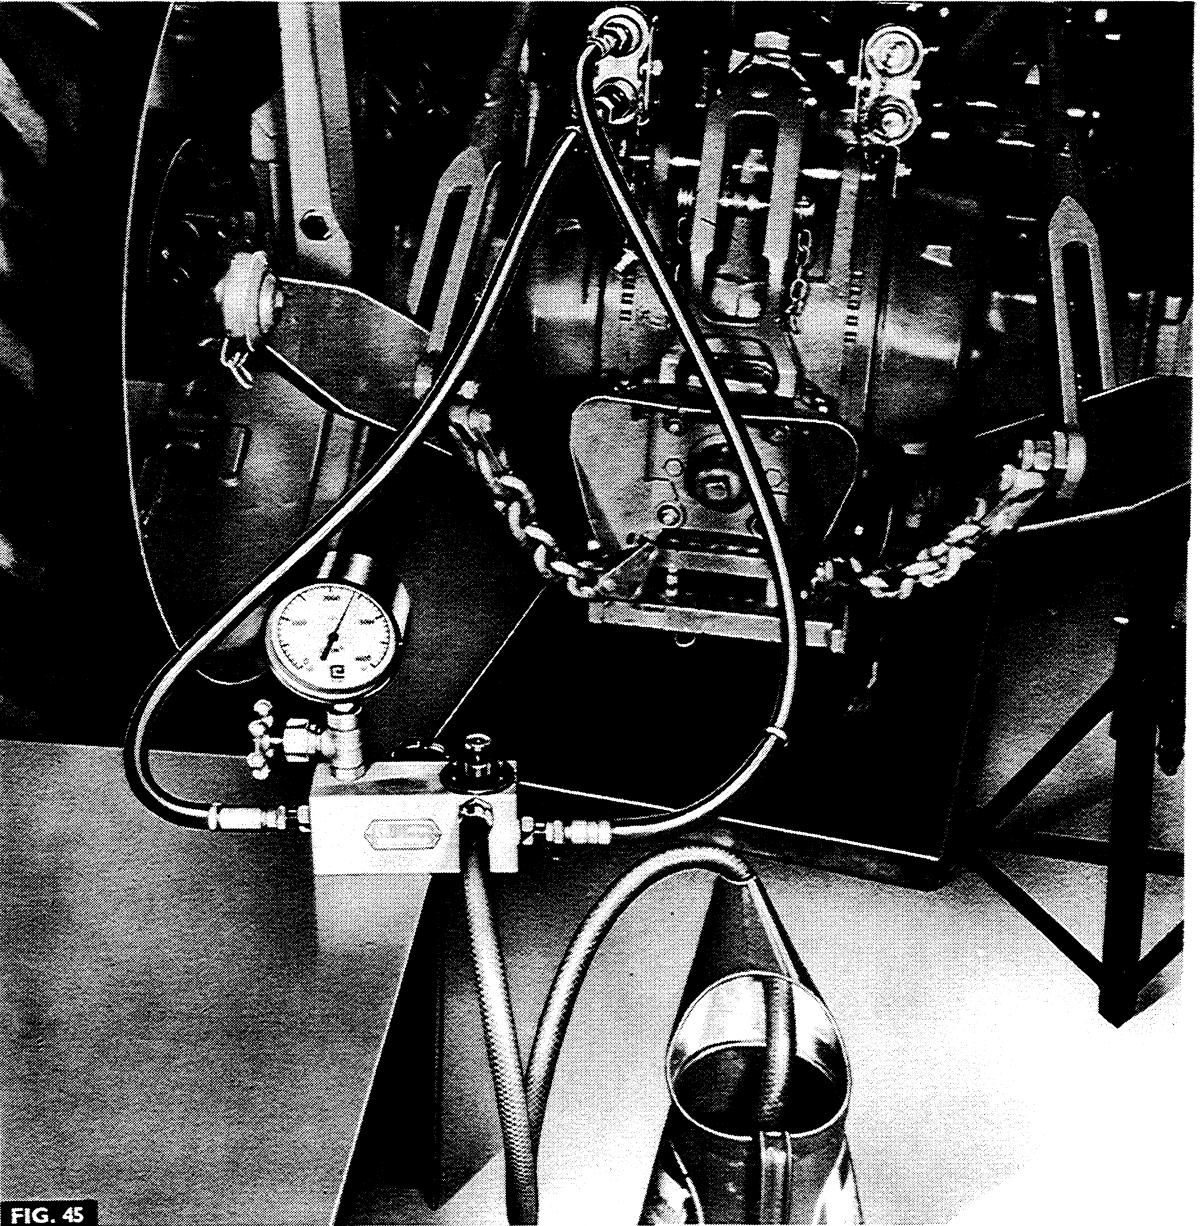

FIG. 45
2. Fig. 45. Attach both couplers to the quick couplers as shown (INLET hose to the LOWER quick coupler).